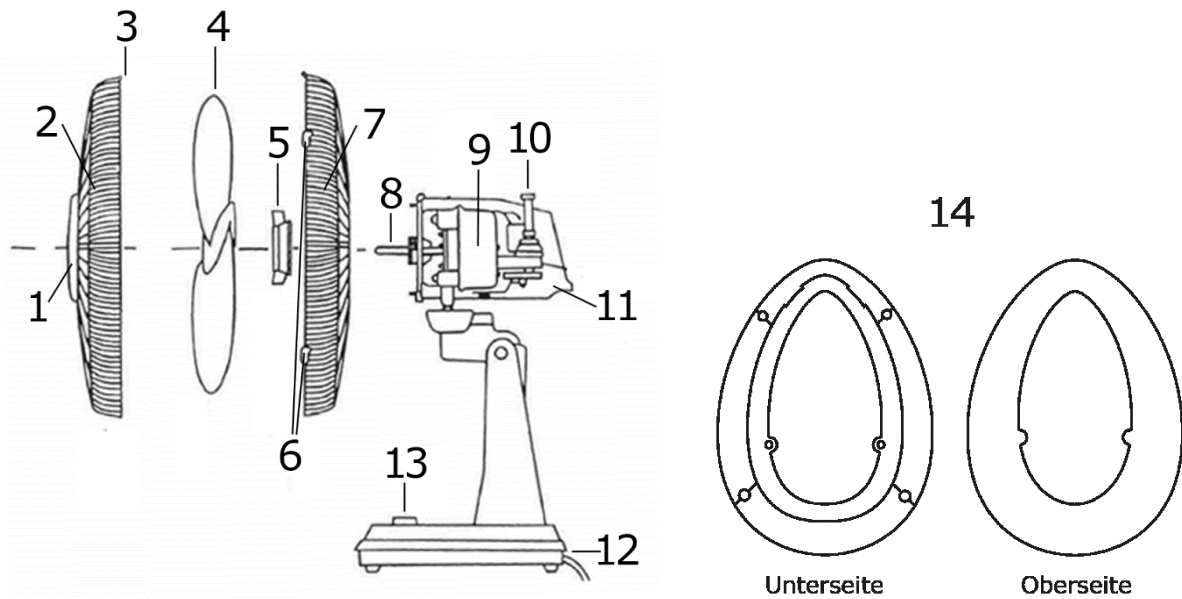

Figure 2 Scope of supply
- ✓ Check whether the delivery is complete (see Fig. 2).